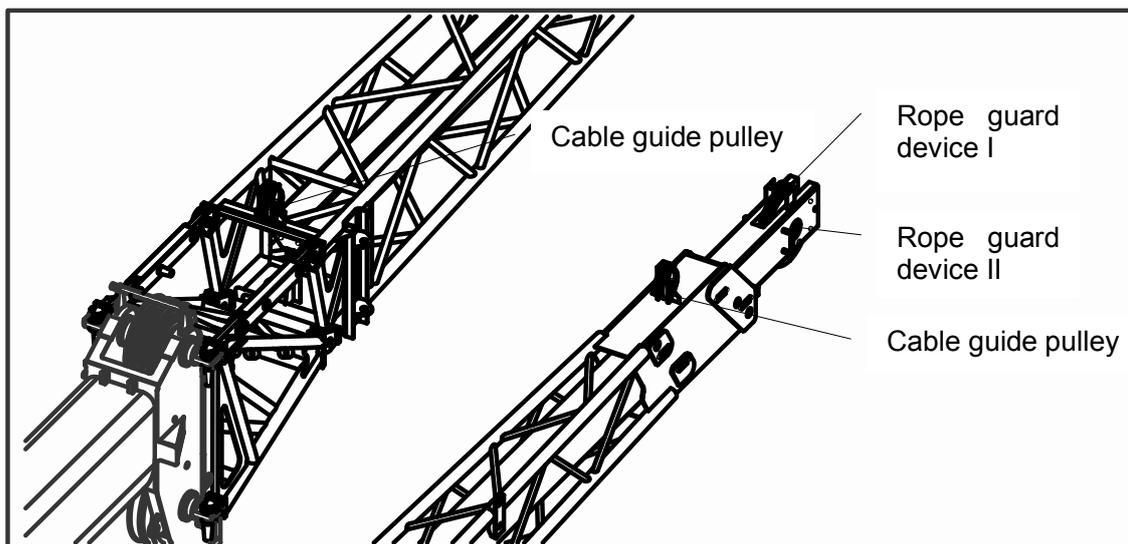

Fig. 05-12
- g) For details, please refer to Fig. 05-12.